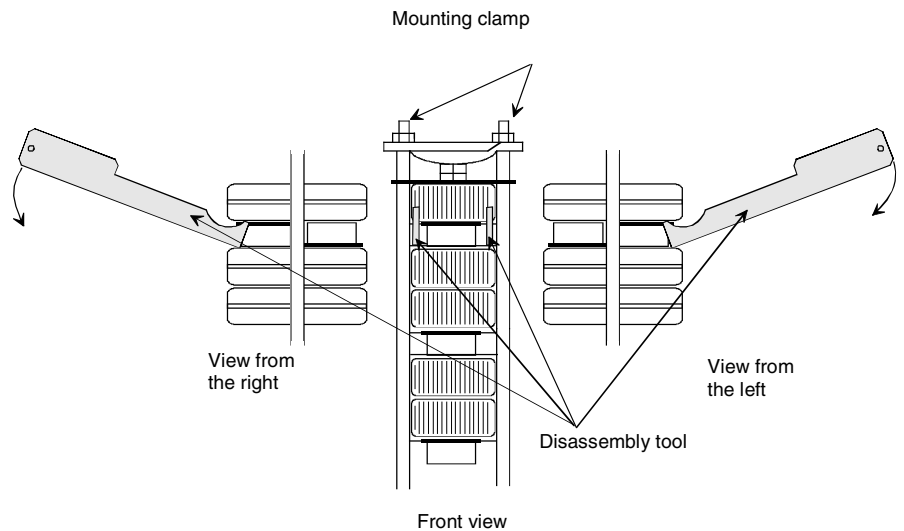

Figure 5-2 How to use the disassembly tool
5. Attach the disassembly tool at the faulty thyristor and prize open the upper and lower heat sinks (see *figure 5-2*).